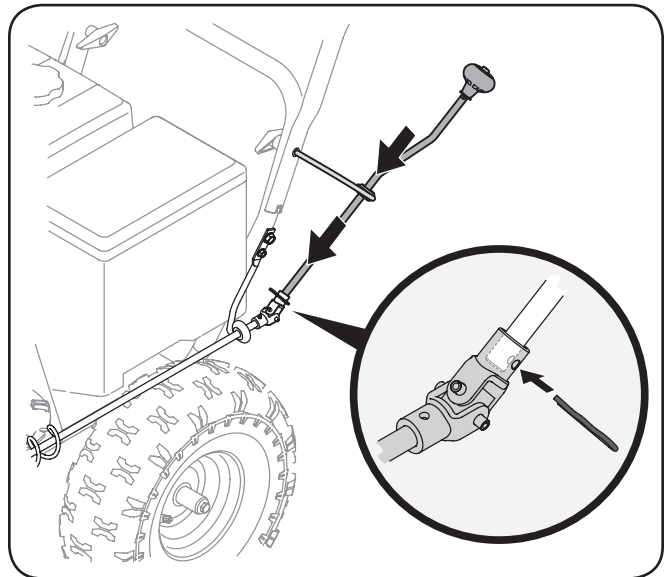

Figure 3-25
1. Insert the unattached chute control rod into the eye bolt on the left side of the handle assembly. See Figure 3-25.
2. Line up the holes in the end of the unattached chute control rod with the holes in the u-joint attached to the lower chute control rod. Insert the cotter pin. See Figure 3-25. If necessary, the bracket securing the lower chute control rod to the chute base can be adjusted. Refer to Chute Bracket Adjustment in the Service section.